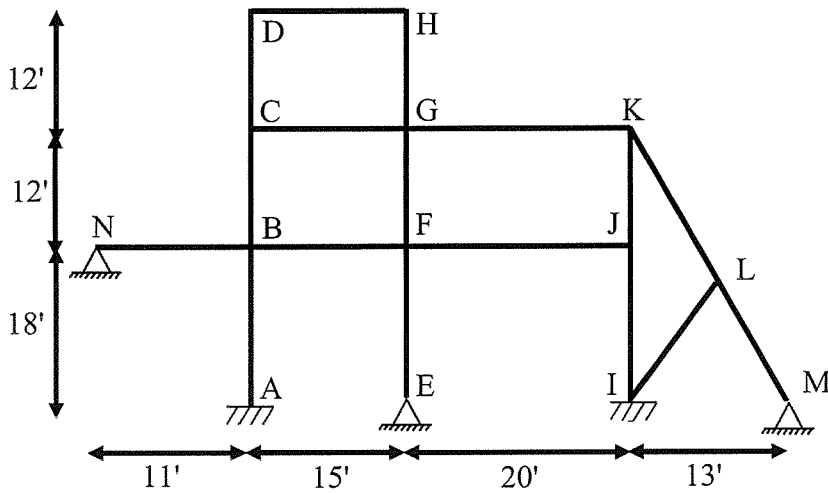

Figure 1
Determine the effective length factor (K) for AB, BC, CD, and JK columns of the frame shown in **Figure 1**. Given: $I_{\text{column}} = 1200 \text{ in}^4$ and $I_{\text{beam}} = 500 \text{ in}^4$.